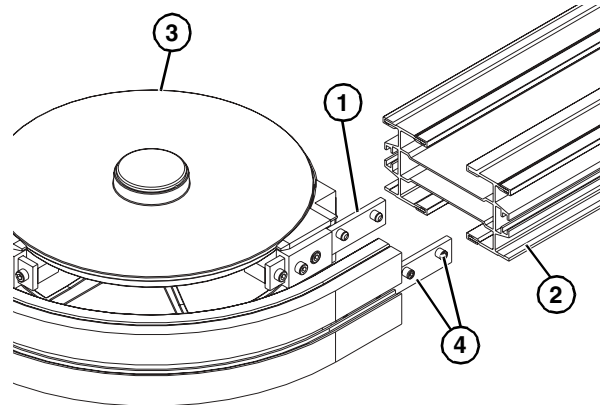

**Figure 6**
1. Join knuckle conveyor frame section (Figure 6, item 1), and conveyor frame (Figure 6, item 2) and secure with two set screws (Figure 6, item 3) on both sides. Tighten all set screws 1/4 turn past contact with frame.